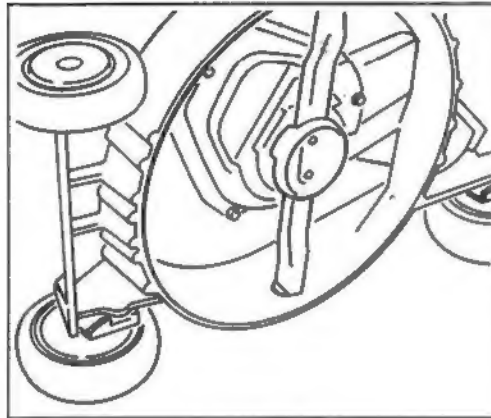

Figure 30
2. Tip mower on its right side (Fig. 30). Avoid rotating blade because starting problems may result.